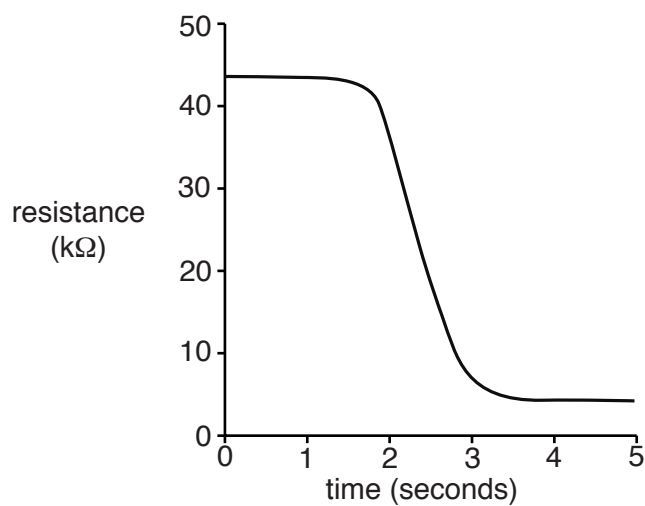

Fig. 2
- (b) Fig. 2 shows a resistance graph for sensor A.